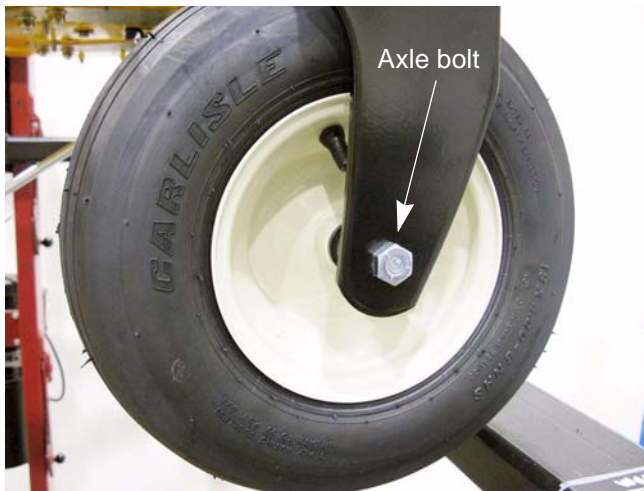

Figure 5.9
2. Remove the axle bolt and nut using a pair of 3/4" wrenches. See Figure 5.9.